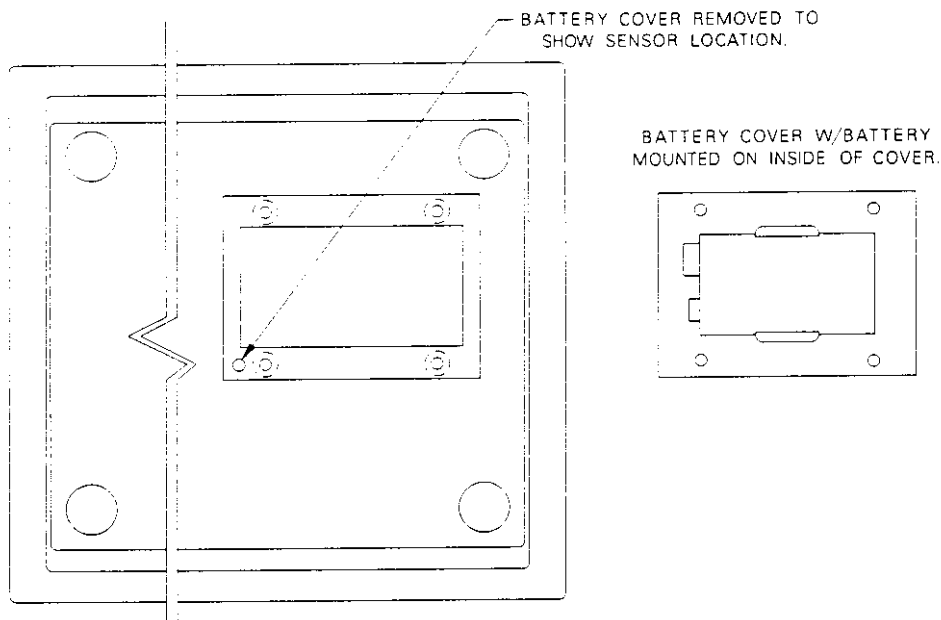

Figure 2. CNRFT/CNIRT, Back View
- Remove the battery cover to expose the battery compartment. Refer to figure 2.